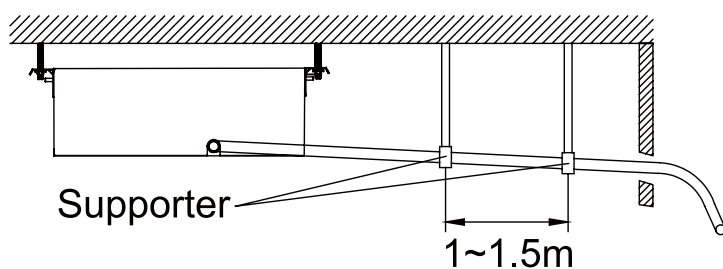

Fig.16
3. When the hose is long, install supporters.(Fig.16)